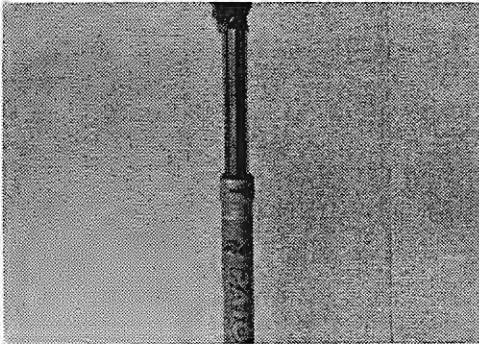

Figure 5.10
14. Push the inner fork leg down until it is bottomed. (Figure 5.10)
3. Compress the fork's inner tube completely. (Figure 5.10)